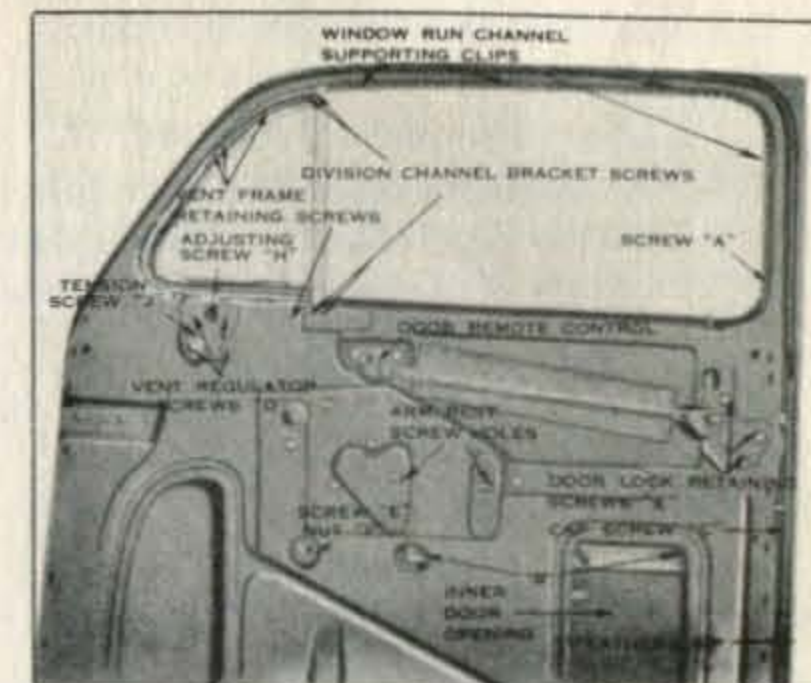

Fig. 19. "F" Front Door—Inside View
5. Release the door trim sufficiently for access to the four lock screws "E." (See Figs. 19 and 20.)
Release the garnish molding, hardware, and door trim sufficiently to remove the two machine screws holding this assembly to the door inner panel. (See Figs. 19 and 20.)
- While glass is in lowered position, remove 4 lower window sash channel to cam regulator screws "B." (Fig. 19.)
bracket screws, also two clip screws on division channel located at lower edge of window opening, and single slot head screw "E" and hex shaped check nut "F" at lower end of division channel. (See Fig. 19.)
- Remove the screws holding the ventilator assembly to the door. (See Fig. 19.)
The adjusting screw "J," Fig. 19, may be set to exert more or less friction on the shaft of the regulator to cause the ventilator to operate loose or stiff.